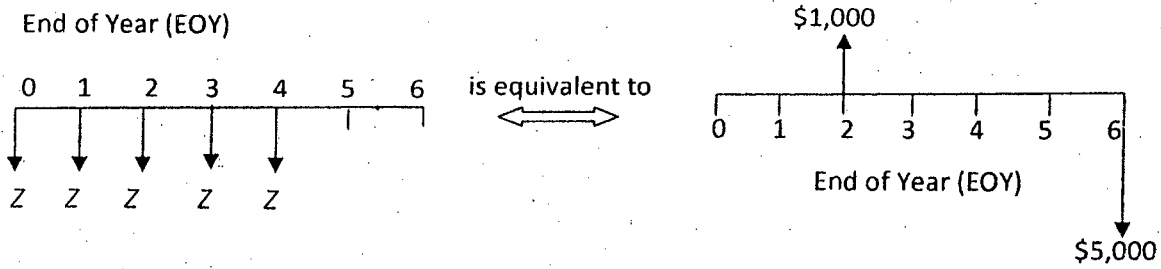

Figure 2: Cash Flow diagrams for Q.2(b)
- (b) Set up an expression for the value of  $Z$  on the left-hand cash flow diagram that establishes equivalence with the right-hand cash flow diagram. The nominal interest rate is 12% compounded quarterly. (see Figure 2) (10)